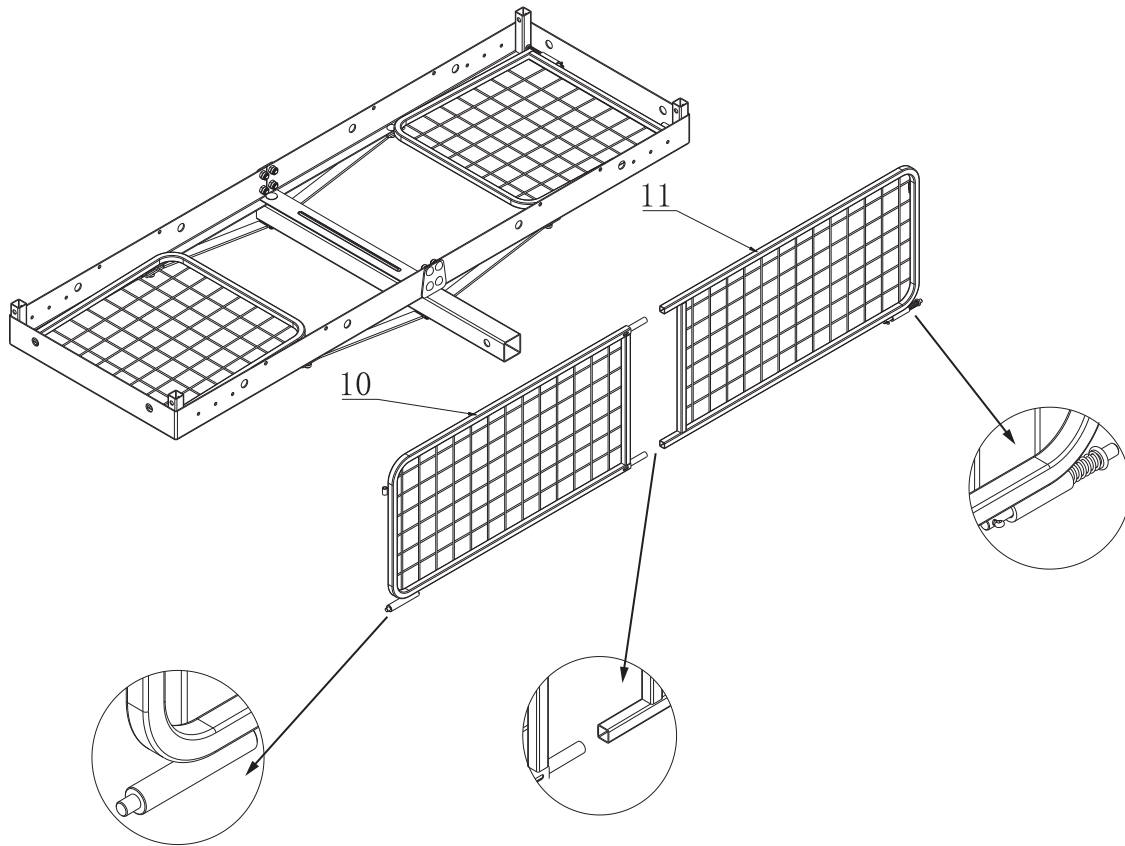

FIG. 5
STEP 5 Insert the cylindrical pins with spring on the bottom of the side fencing (9) into the bottom holes on corner fixtures of supporting frames (1). See Fig 4 (place the fencing flat within supporting frames). See Fig 5. **NOTE: Fencing MUST face inward for all ends and sides.**